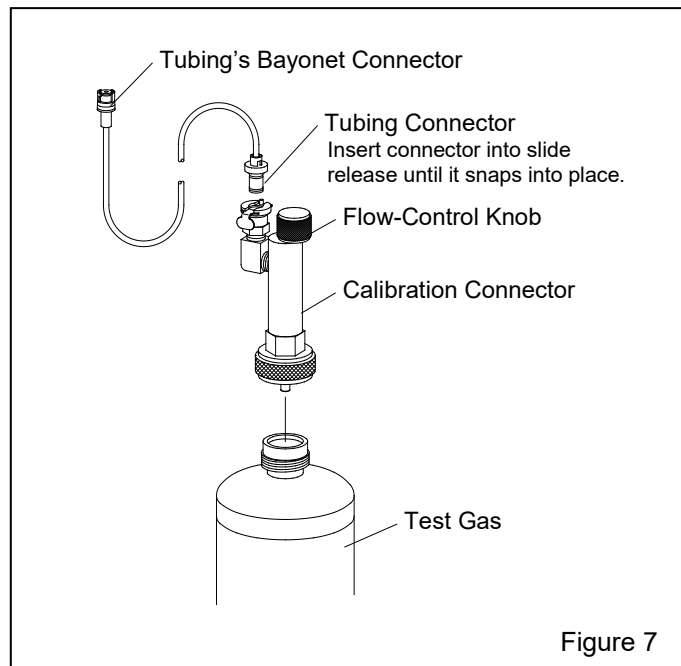

Figure 7
**4.4 Prepare Calibration Connector – Figure 7**